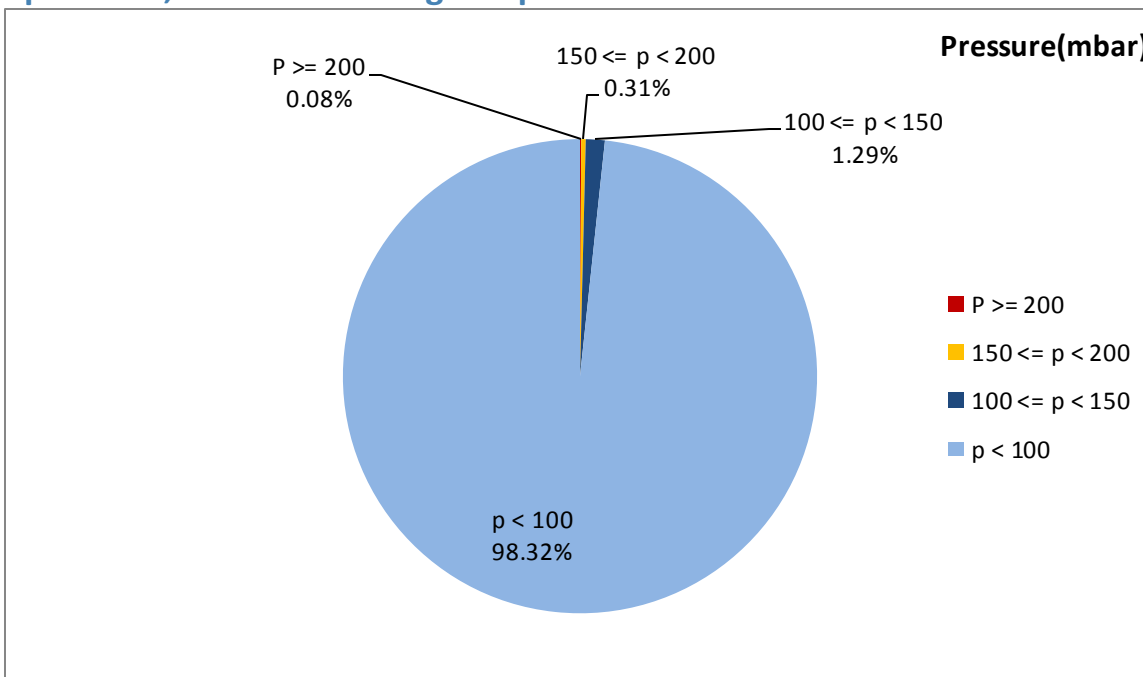

Figure 1- Pressure distribution over the working hours
- As depicted in figure 1, 0.08% of total working time pressure is above 200 mbar and 0.39% above 150 mbar during this period. Comparing pressure values with first half of Nov, shows sharp increment. This sharp variation during this period was because of additive system's problem.